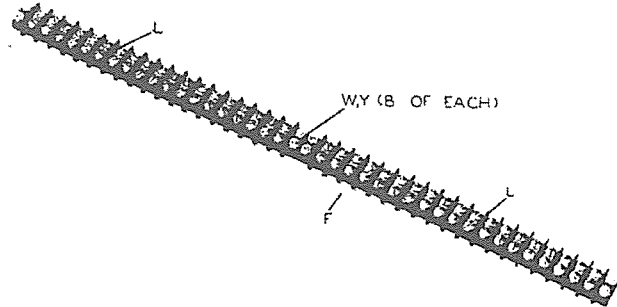

Figure 2-2. 499G-1 Rack Mounting Shelf, Terminal Strip
2.2.3.3 TERMINAL STRIP ASSEMBLY. (See figure 2-2.) The terminal strips, item L, must be mounted on metal strip, item F, before they are ready for final assembly onto the shelf.